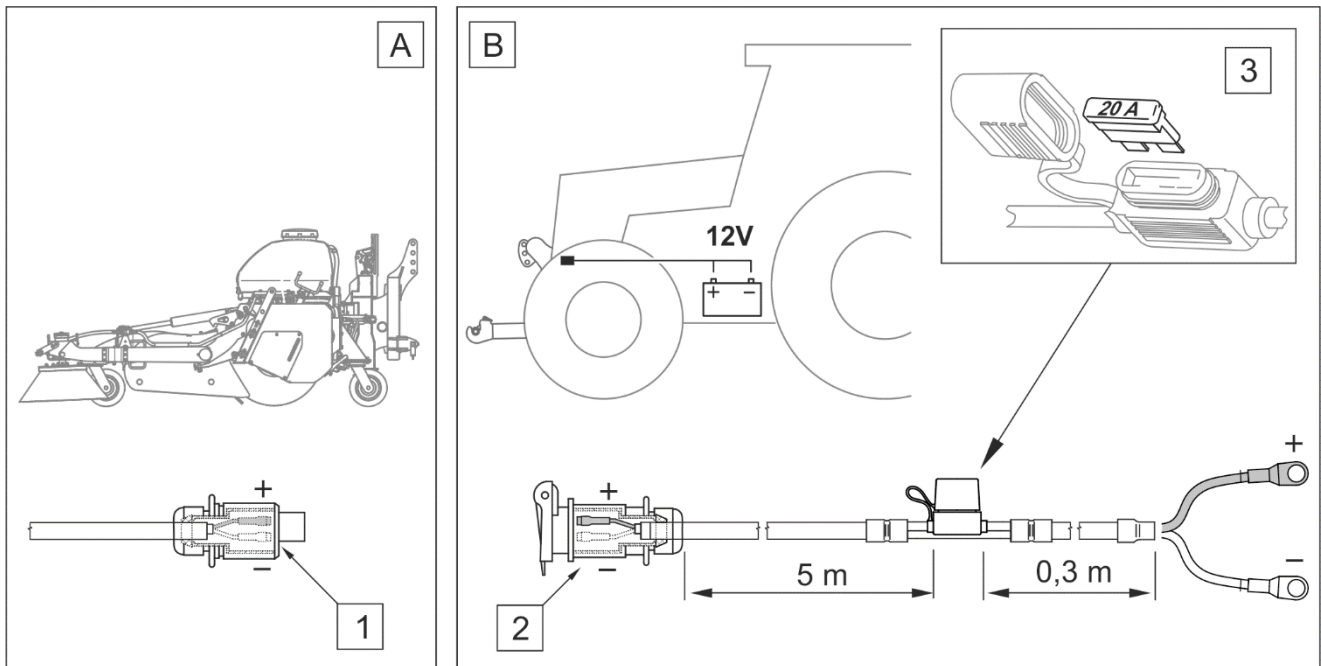

FIGURE 4.1 Connecting power lead to electrical system
The sweeper should be supplied from the 3-pin 12V DIN 9680 electrical socket installed on the front of the carrying vehicle. If the carrying vehicle is not equipped with such a socket or is equipped with a different type of socket, carry out the socket installation according to the diagram (FIGURE 4.1). Connect power lead (B) to the carrying vehicle's electrical system and place socket (2) near the front three-point linkage. Connect plug (1) to socket (2). There is a UNIVAL 20 A fuse (3) on the „+” supply conduit.